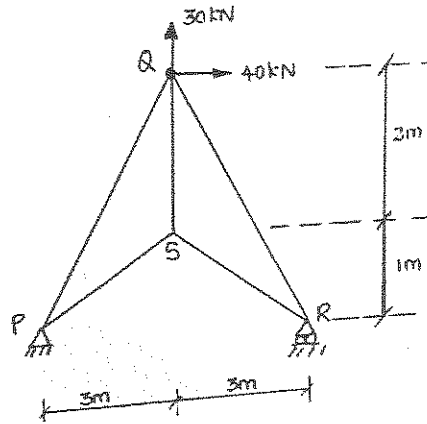

Fig. Q15 (a)
15. (a) Find the forces in all the members of pin jointed frame PQRS shown in Fig Q15 (a), using stiffness method. Assume Area =  $1800 \text{ mm}^2$  and Young's modulus =  $200 \text{ GPa}$  for all the members.